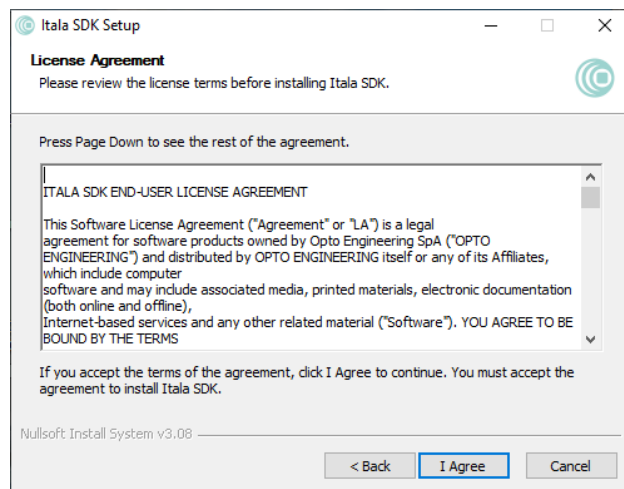

Figure 23: Itala SDK licence agreement window.
3. Check the licence terms before installing Itala SDK (Fig.23).